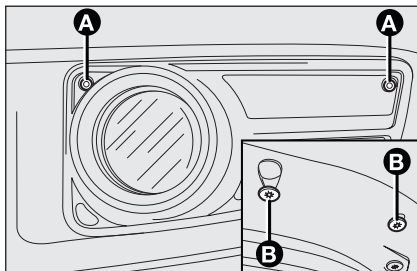

fig. 29
- slacken the two fog light fastening screws **A**-fig. 29 on the bumper;